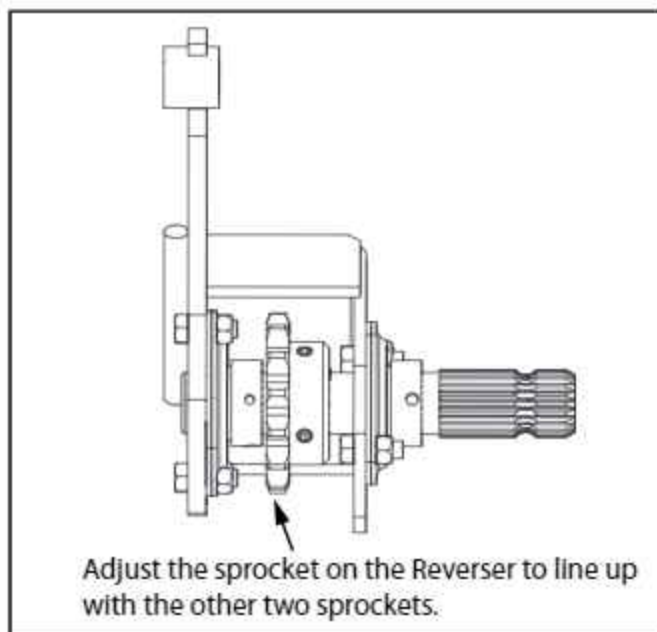

FIG. 7-2. Reverser Sprocket Alignment
5. Adjust the sprocket on the reverser to be inline with the sprockets on the main swing auger drive. The easiest way to accomplish this is to measure the distance from the centre of the teeth to the boot on all three sprockets. This distance should be the same for all three sprockets. See Fig. 7-2.